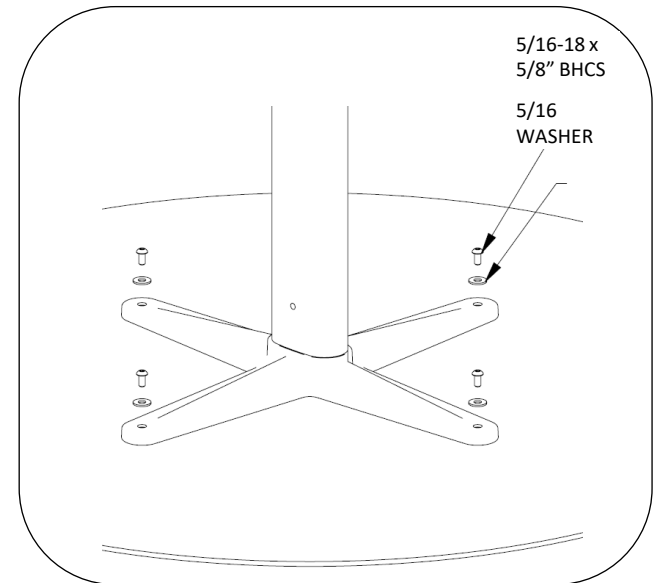
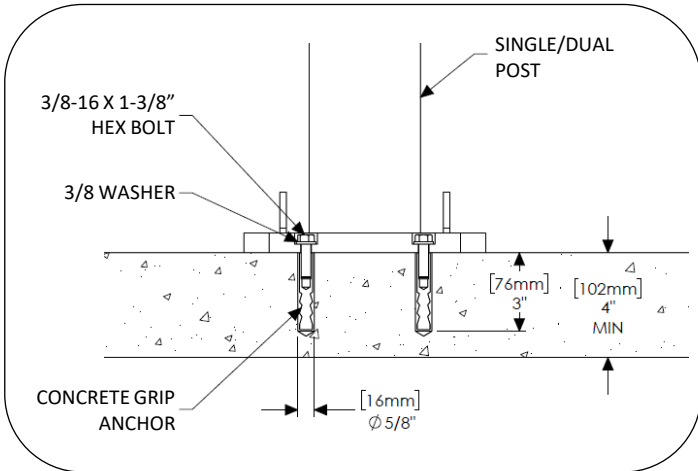

FIG. 2 – ATTACH TABLETOP TO BASE
FIG. 3 – INSTALL ANCHORS FOR SINGLE/DUAL POSTS
2. Place pedestal bases in position on tabletop and install hardware as shown in Fig. 2.
2. Place post base(s) in position on tabletop and install hardware as shown in Fig. 2.
4. Mark (4) hole locations through each base plate.
5. Move table. Drill holes according to Fig. 3. Clear holes of debris.
6. Assemble concrete grip anchors, hex head bolts and washers to base plate(s) as shown in Fig. 3.